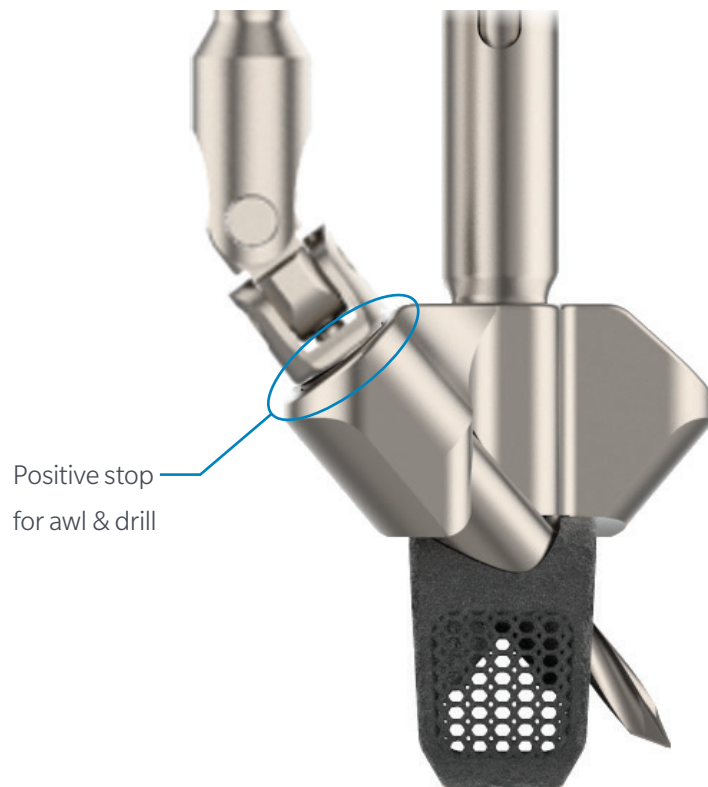

Figure 10
- Use either the awl or drill (straight, or polyaxial) to penetrate the cortex of the endplate through the guide head and interbody pocket. Guide head method instruments outlined on pages 9 and 10 will encounter a physical stop on the face of the guide head to ensure the instrument tips do not protrude beyond the intended depth (Figure 10).